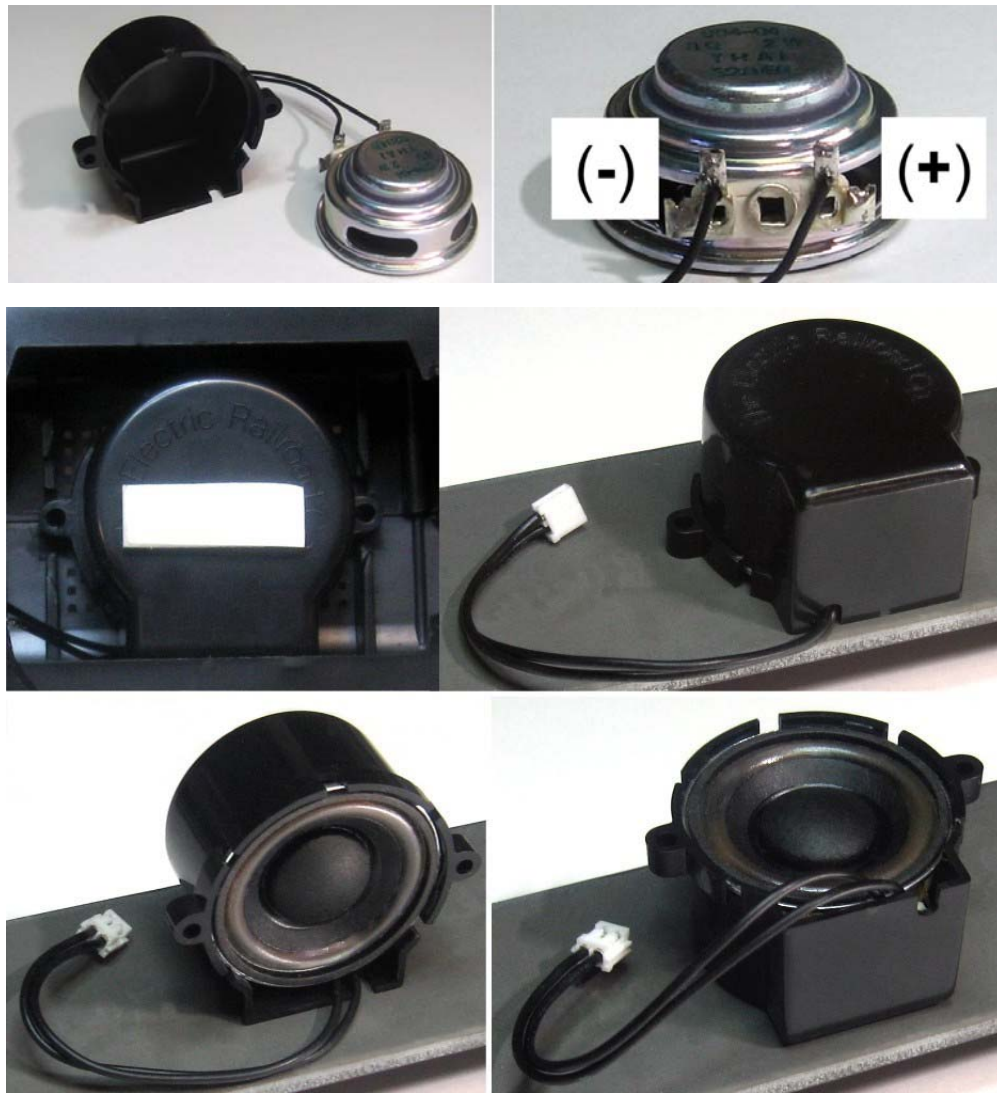

Figure 1 – Speaker & baffle with mounting options
1. A high quality speaker and matching baffle are included in the Railsounds Commander kit. As shown in Figure 1, the baffle may be mounted in a variety of ways, using the mounting ears, with double stick tape, or a small hole may be drilled and a self-taping screw used.